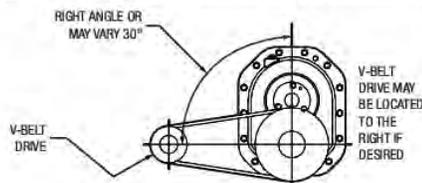

Figure 3 - Angle of V-Drive
- If a Dodge Torque-Arm II motor mount is not being used, install motor and V-belt drive so belt will approximately be at right angles to the center line between driven and input shaft (Figure 3). This will permit tightening the V-belt with the torque arm.